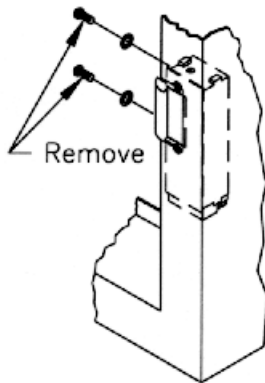

Fig. 1
- 3) Remove the 2 screws (Fig. 1) that hold the door latch to the case using a philip screwdriver. The latch will now move freely in its slot.
Inside each key location are two contacts (Figure 1), these contacts may accumulate dirt from the smart keys and they will need to be cleaned periodically. To clean the contacts follow these steps.